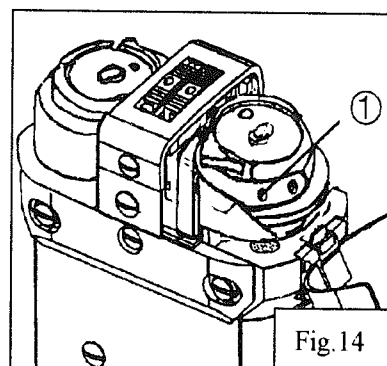

Fig.14
9. Lower thread tension (Fig.14):
Turning the screw 1 clockwise will increase the tension of lower thread, otherwise, the tension of lower thread will decrease. (Fig.14).